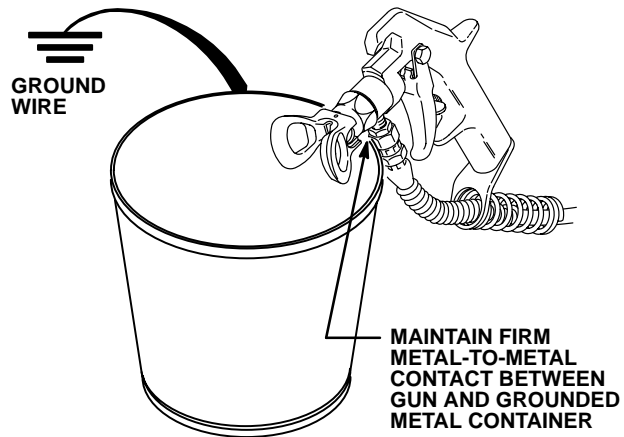

Fig 10-1
- Hold a metal part of the gun firmly against a grounded metal waste container. See Fig 10-1. Hold the trigger open, turn the sprayer ON, and slowly increase the pressure until the sprayer starts. Keep the gun triggered until all air is forced out of the system and the paint flows freely from the gun. Release the trigger and engage the trigger safety latch.